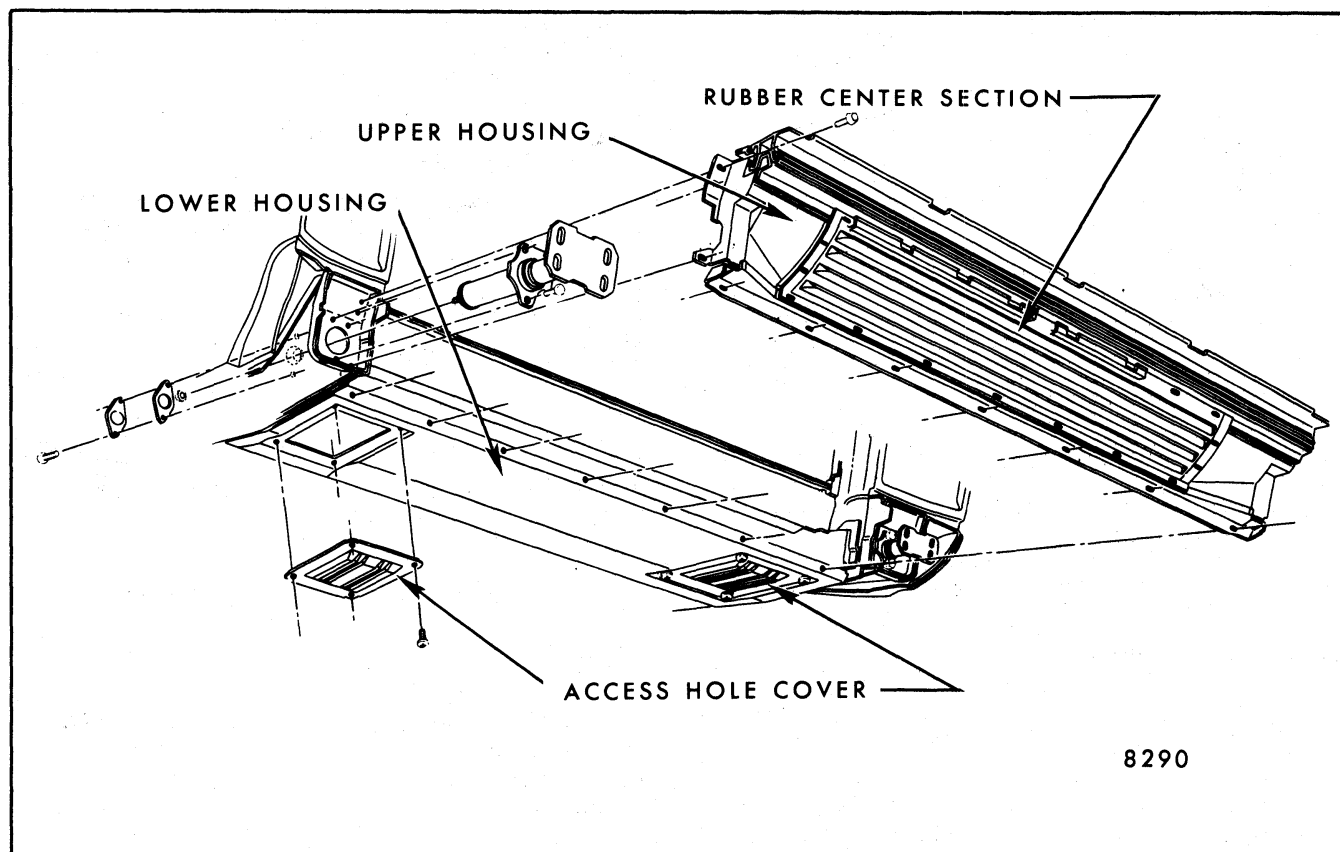

Fig. 7-117-Body Rear Upper and Lower Housing Components
1. With tailgate in the closed position, remove back body lower housing access hole covers (Fig. 7-117).
WARNING: WHEN PERFORMING TAILGATE SERVICE OPERATIONS THROUGH ACCESS OPENINGS IN BODY REAR LOWER HOUSING (FIG. 7-117), PLACE BODY TAPE OVER TAILGATE OPENING KEY CYLINDER TO PREVENT INADVERTENT OPERATION OF THE TAILGATE.
The back body lower housing assembly, an integral component of the body, serves as a storage area for the tailgate when the gate is lowered (Fig. 7-117). It is considered a "wet" area because it accepts water drained from inside the tailgate assembly as well as water that passes the filler strips between the tailgate outer panel and the upper housing. The lower surface of the housing is designed with a slope toward a drain slot on the right side. The back body upper housing which is bolted to the rear section of the lower housing, serves to enclose the tailgate storage area and provide support for rear bumper face bar attachments. Two access covers are secured to the underside of the lower housing and are provided to permit servicing the tailgate components contained therein.